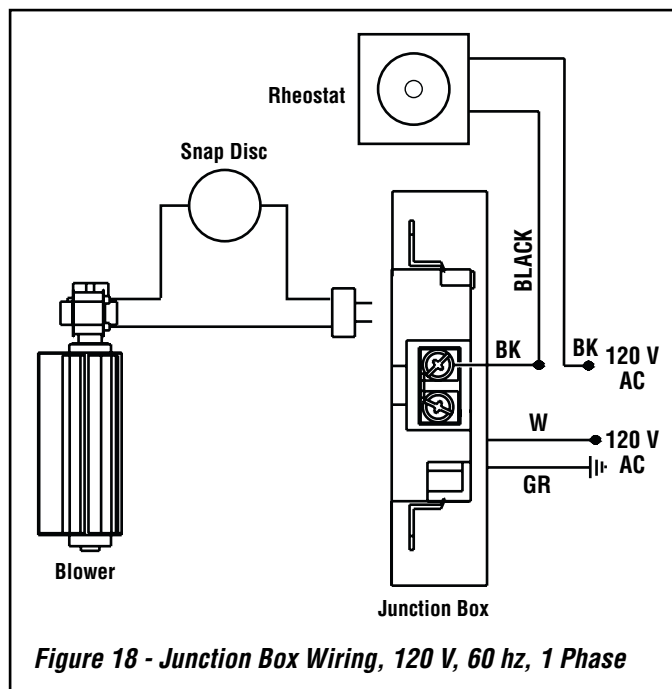

Figure 18 - Junction Box Wiring, 120 V, 60 Hz, 1 Phase
If you wish to adjust the blower speed, the variable speed control (VRUW) provided must be installed in line with the wiring (**Figure 18**). Again, use a qualified electrician for installation.
4. Connect the black power supply wire and the power outlet black lead wire together. Connect the white power supply wire and the power outlet white lead wire together (**Figure 18**).
5. Connect the ground supply wire to the green lead wire attached to the outlet's green ground screw (**Figure 18**). Restrain the inlet power lead per NEC or local codes.